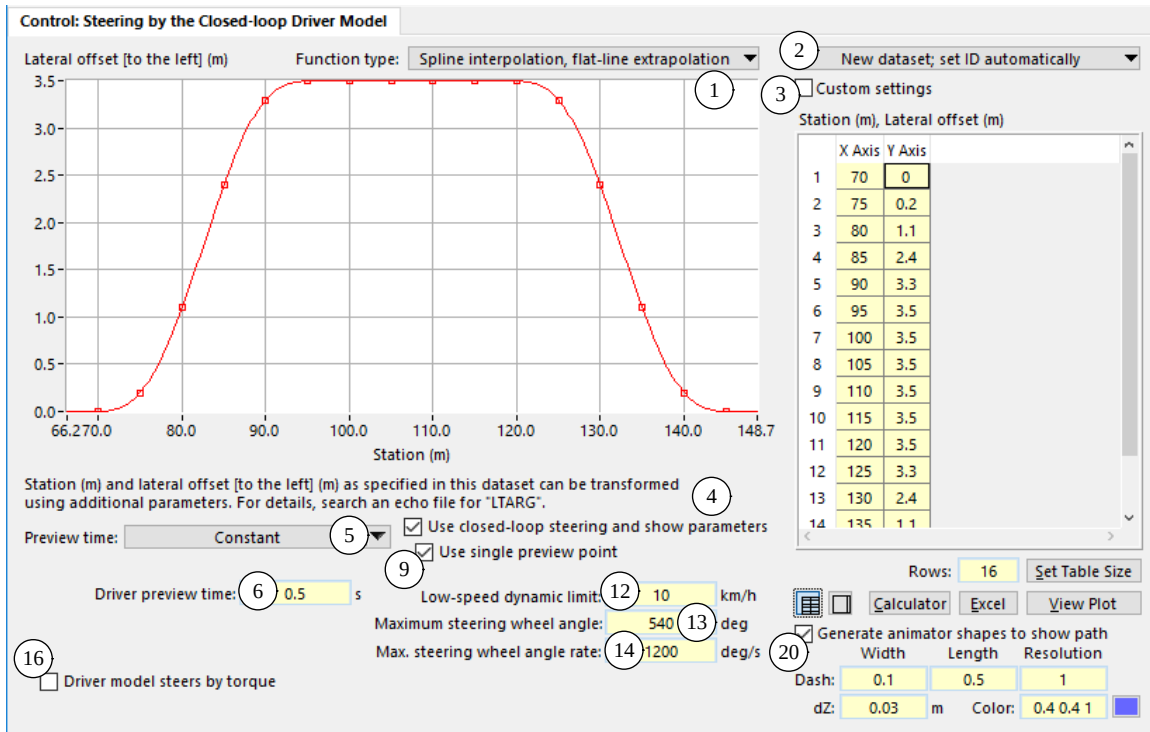

Figure 20. Library screen for steering by the closed-loop driver model.
DM is usually configured using the library screen shown in Figure 20. The top part of the screen shows a lateral offset associated with the `LTARG` Configurable Function. The bottom part shows properties of the DM controller.
When the drop-down list is set to **Constant** (Figure 20) the preview time is constant as specified in a yellow field (6).
- (6) Constant preview time (keyword = TPREV\_CONSTANT). This field is shown only when the drop-down control (5) is set to **Constant** (Figure 20).
`LTARG_ID_DM` is the ID number of the `LTARG` dataset used by the driver model. It has a default value of 1, and can be set to any positive number up to `N_LTARG`, or to any value that matches the `LTARG_ID` of an existing dataset. If set to zero then the lateral offset from the path stays at zero. The `LTARG_ID_DM` value can be overridden by specifying a value after several `LTARG` datasets have been created to assign a specific target to the driver model. `LTARG_ID_DM` may also be changed during a VS Event. As described earlier (page 5), the custom ID option ② (Figure 20, page 28) is recommended if multiple `LTARG` datasets will be used in a simulation.